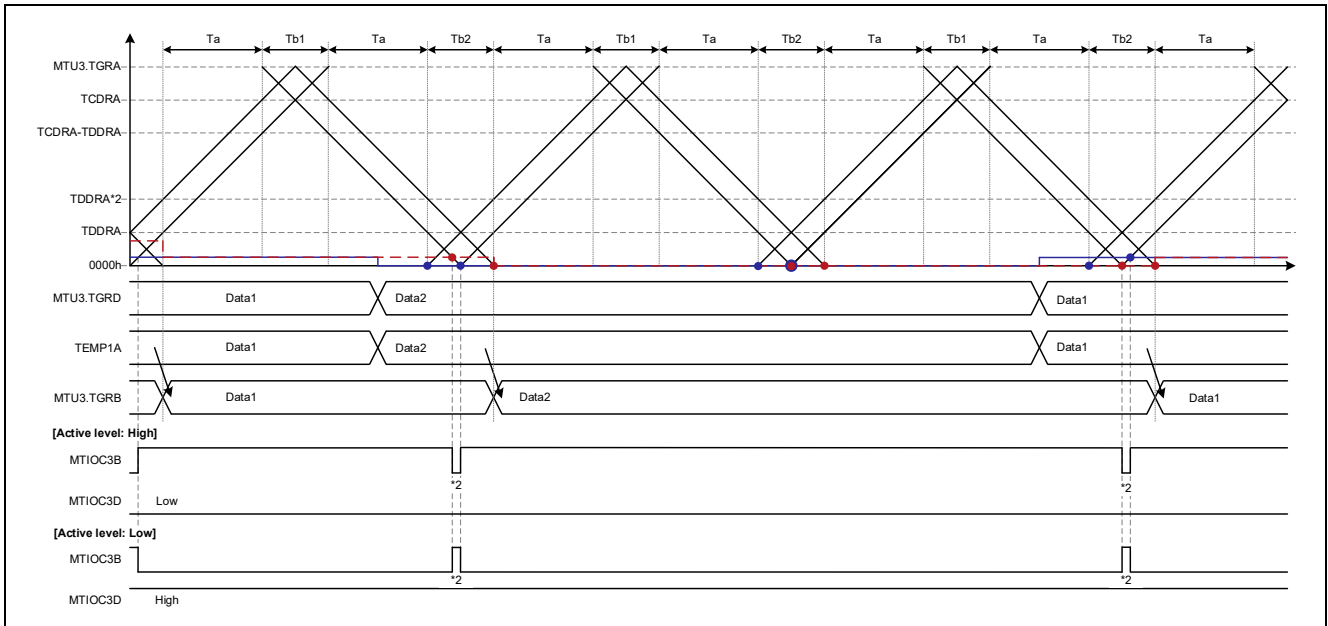

Figure 1.35 Complementary PWM Mode 2 Operation Example (Output Start: Trough, Overwrite in Ta Interval, Duty: A → 100% → A)
- [Operation example 2] Figure 1.35, Complementary PWM Mode 2, Output Start: Trough, Ta Interval Overwrite, caution 2
Figure 1.35 shows an operation example of buffer overwrite in the Ta interval in complementary PWM mode 2. Except for the difference in the buffer overwrite timing, the operation is the same as that shown in Figure 1.34.